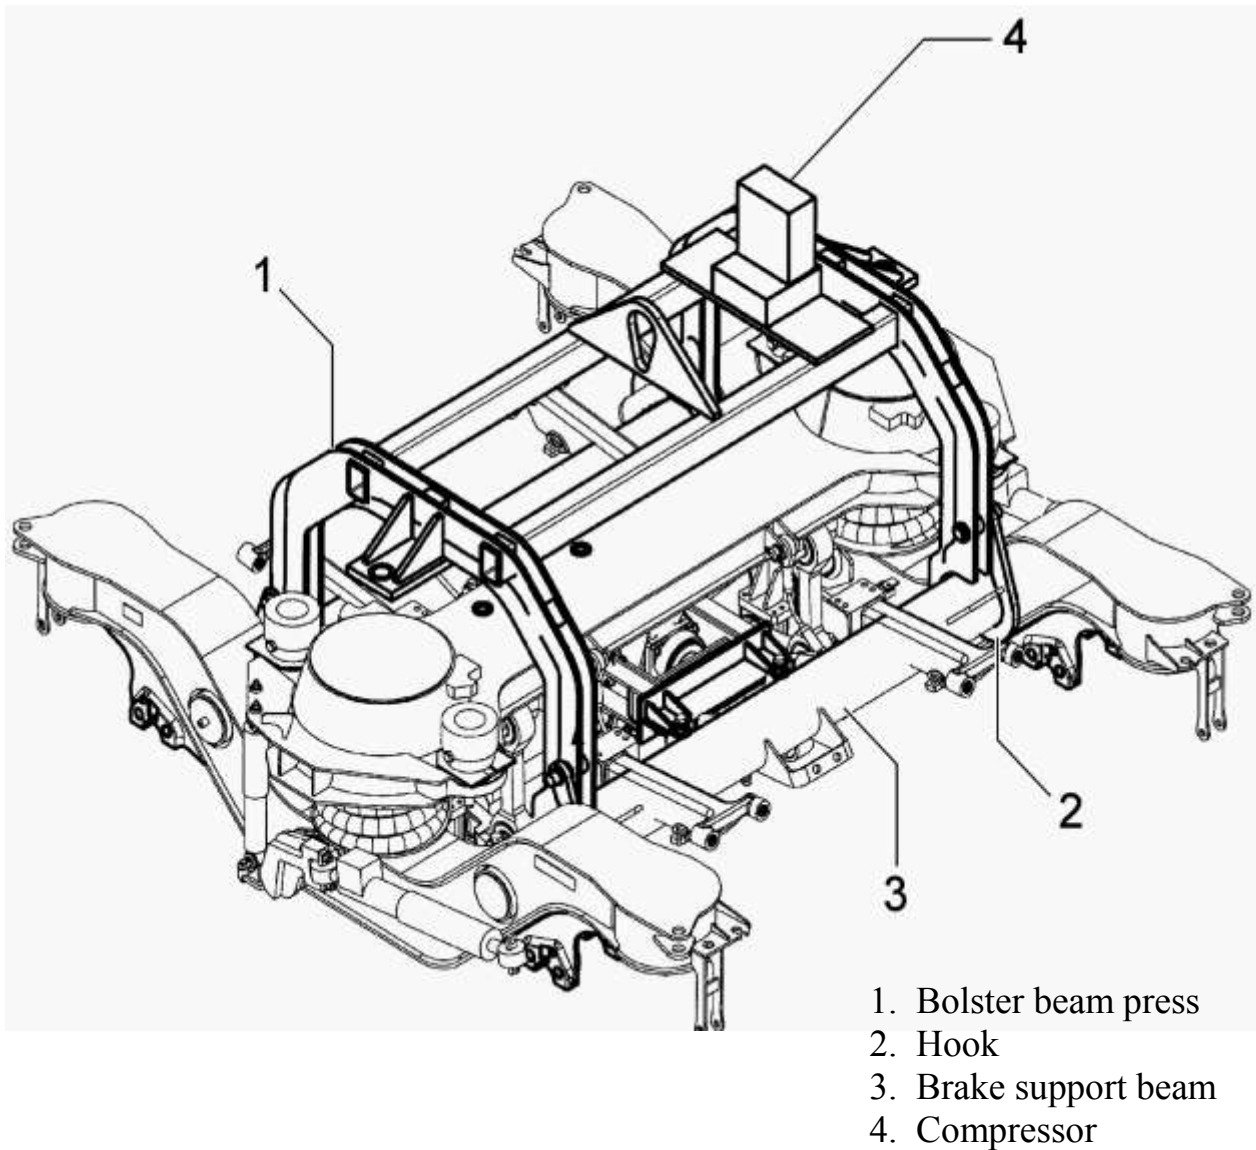

FIG. 4.22 Pressing the Bolster Beam
The separation of the bolster beam from the traction centre (Para. 4.3.1.3), from the anti-roll bar (Para. 4.3.1.4) and the removal of the safety cables (Para. 4.3.1.5) requires the use of the press 2613037500 (1 - FIG. 4.22). The press is secured to the brake support beam (3) through the hooks (2).